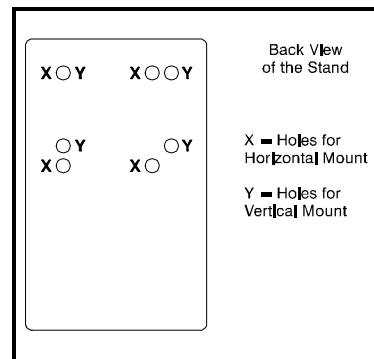

Figure 3
- ! For a *horizontal mount*, align the four holes on the back of the scanner with the four clearance holes located on the stand marked with an X in Figure 3.
- ! For a *vertical mount*, align the four holes on the back of the scanner with the four clearance holes located on the stand marked with a Y in Figure 3.